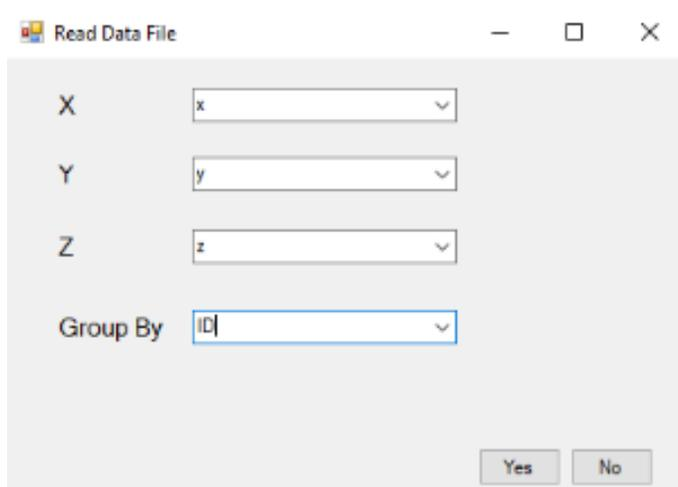

Figure 3-5. Input lines from text file.
1. Select Geometry>Input Text File as Polylines. A form will appear (Figure 3-5).